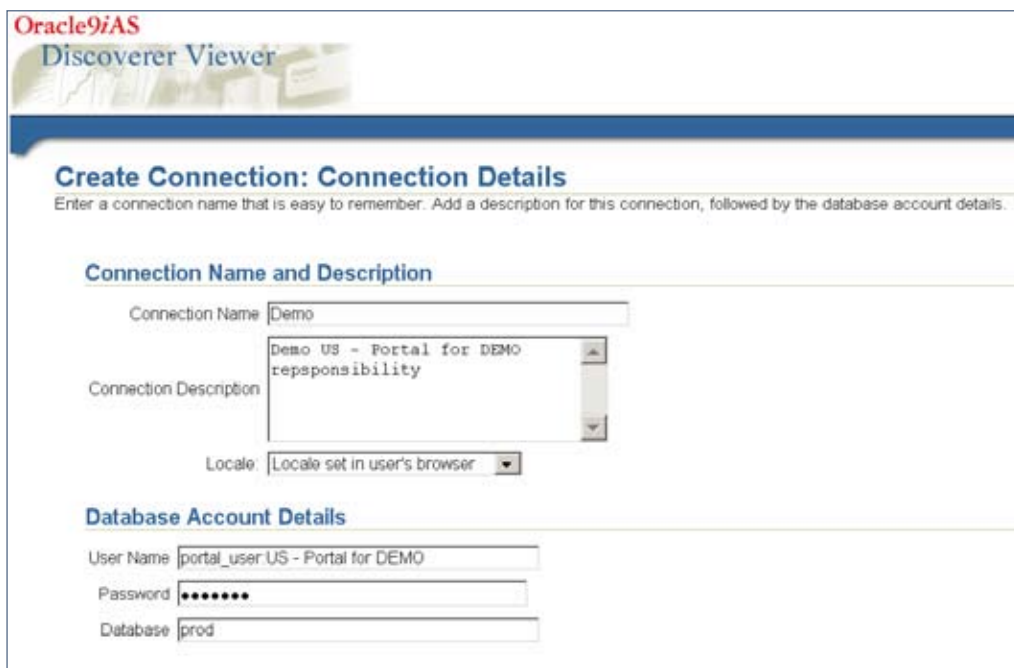

Figure 11: Oracle 9iAS Connection
Once the Portal administrator set up a new Portal ID, Demo, for this customer, a user-defined connection was created within Portal to link the Demo Portal ID to the US – Portal for DEMO responsibility assigned to the PORTAL_USER Oracle EBS 11i ID. Figure 11 shows this user-defined connection; its selected responsibility assignment is displayed as “portal_user:US – Portal for DEMO”
- Creating a user-defined connection [Figure 11].